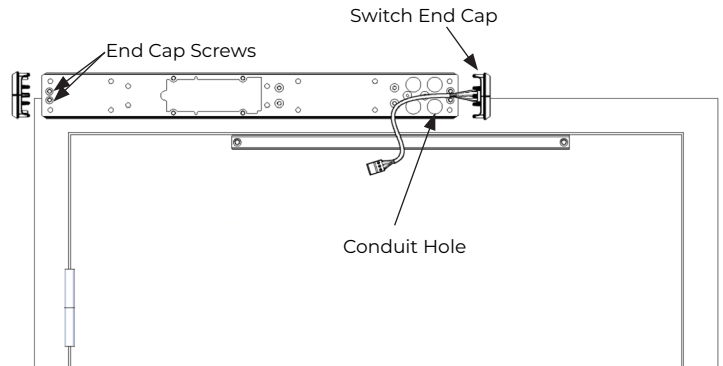

Figure 7
1. Install two (2) screws on each end of backplate, leaving an approximate 3/16" gap between head of the screw and the backplate. (Figure 7)
2. Slide the end caps behind the screw heads and tighten both screws. (Figure 7)